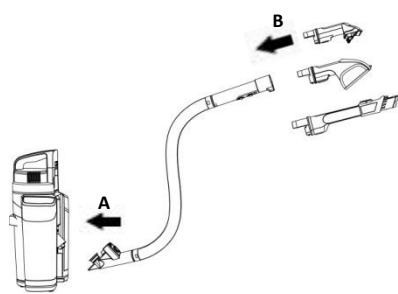

Figure 4-7
A. Boot operation: Tilt the fuselage by holding the handle, press the "power switch" button and start the roller brush. Figure 4-7.